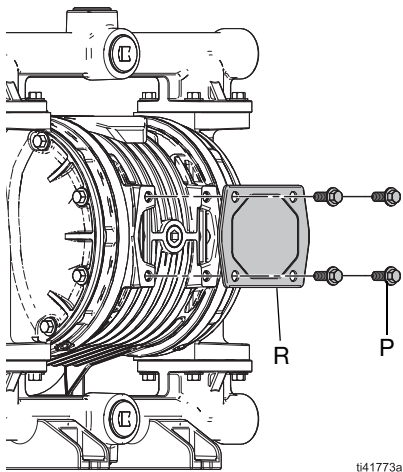

FIG. 6: Remove Fasteners and Plate, Pumps Certified for Use in Explosive Atmospheres or Hazardous (Classified) Locations only
2. **Pumps Certified for Use in Explosive Atmospheres or Hazardous (Classified) Locations only:** Remove the fasteners (P) and plate (R). See Fig. 6.